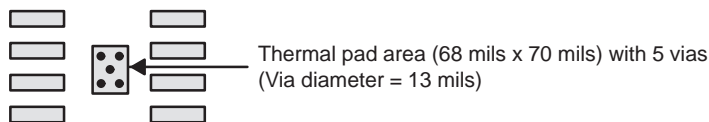

Figure 34. PowerPAD™ PCB Etch and Via Pattern
1. Prepare the PCB with a top side etch pattern as shown in Figure 34. There should be etch for the leads as well as etch for the thermal pad.